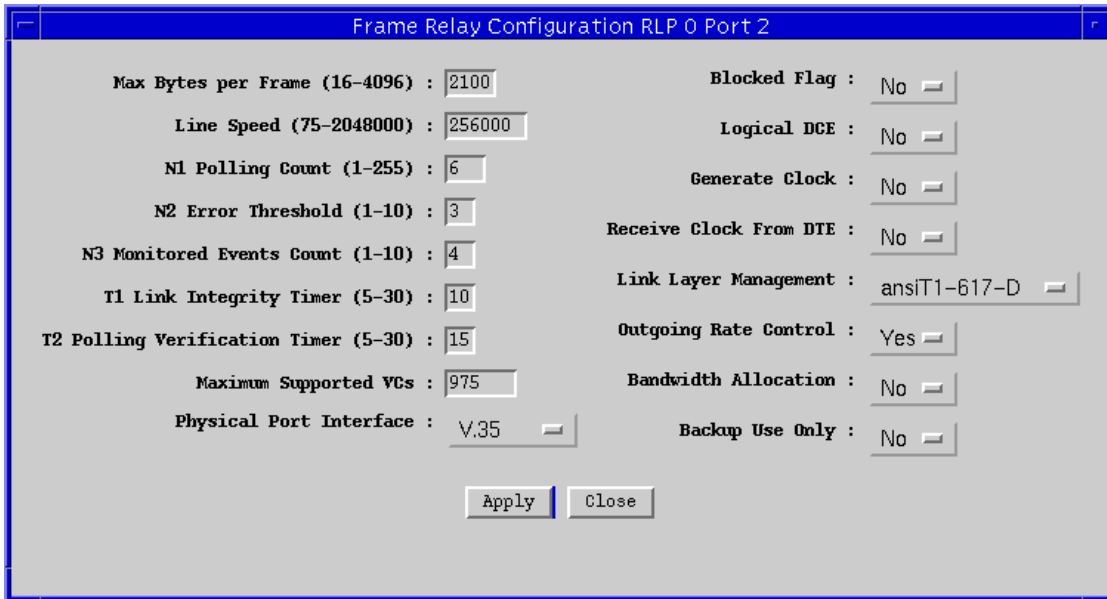

Figure 5-1. Frame Relay Port Configuration
2. Drag down to **Frame Relay Port Configuration**, and release. The Frame Relay Configuration window, Figure 5-1, will appear.